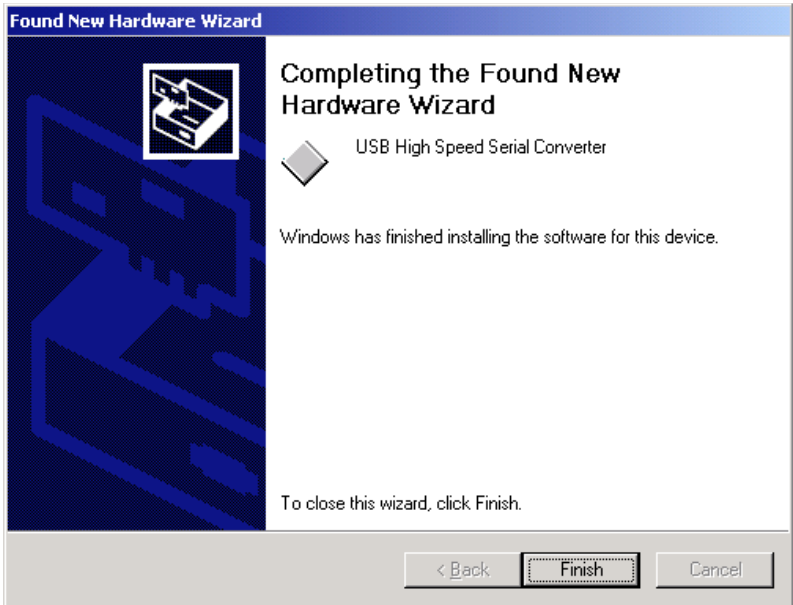

Figure 20. Completion of Hardware Wizard.
6. Click **Finish** to close the wizard (Figure 20).